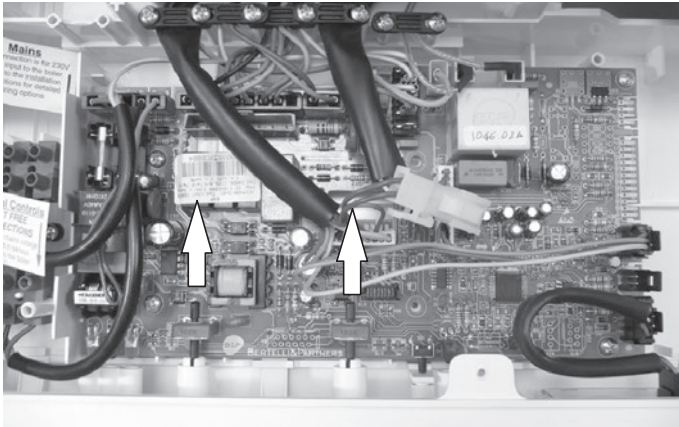

Figure 8.25
- 3 Remove the spindles of the C.H. and D.H.W. temperature adjustment knobs by delicately pulling them with pliers in the direction shown by the arrows in Figure 8.25.